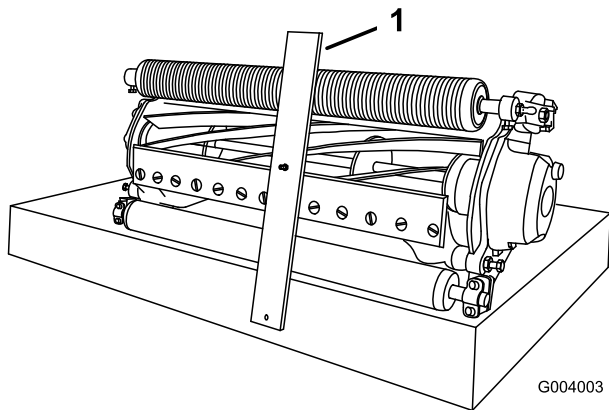

Figure 16
3. Hook the bolt head onto the cutting edge of the bedknife and rest the rear end of the bar onto the rear of the roller (Figure 16).